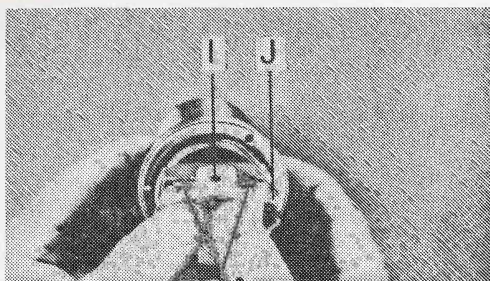

Fig. 10-36.
4. Refer to Fig 10-36. Replace the thrust plate (I) with its curved side over the springs (K) by inserting the bottom side between the bottom tabs of the lock frame and pressing the snap into position between the top tabs (H1).